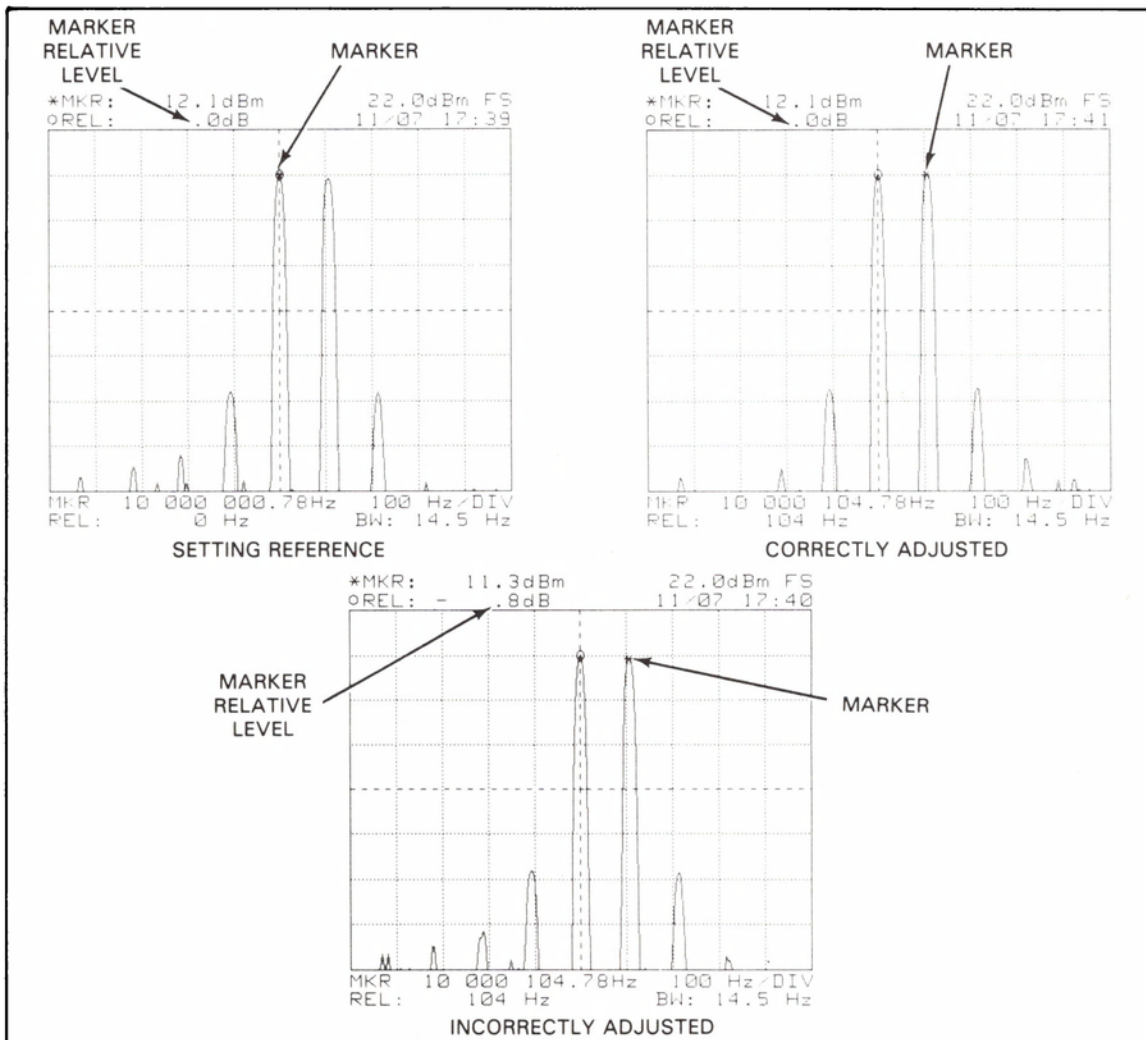

Figure 7-6. Intermodulation Distortion Test Adjustments
- f. Move the -hp- 3582A marker to the peak of the signal at approximately 10 000 100.0 Hz and adjust the -hp- 3325A amplitude until the signal level matches that of the 10 MHz reference signal (See Figure 7-6).